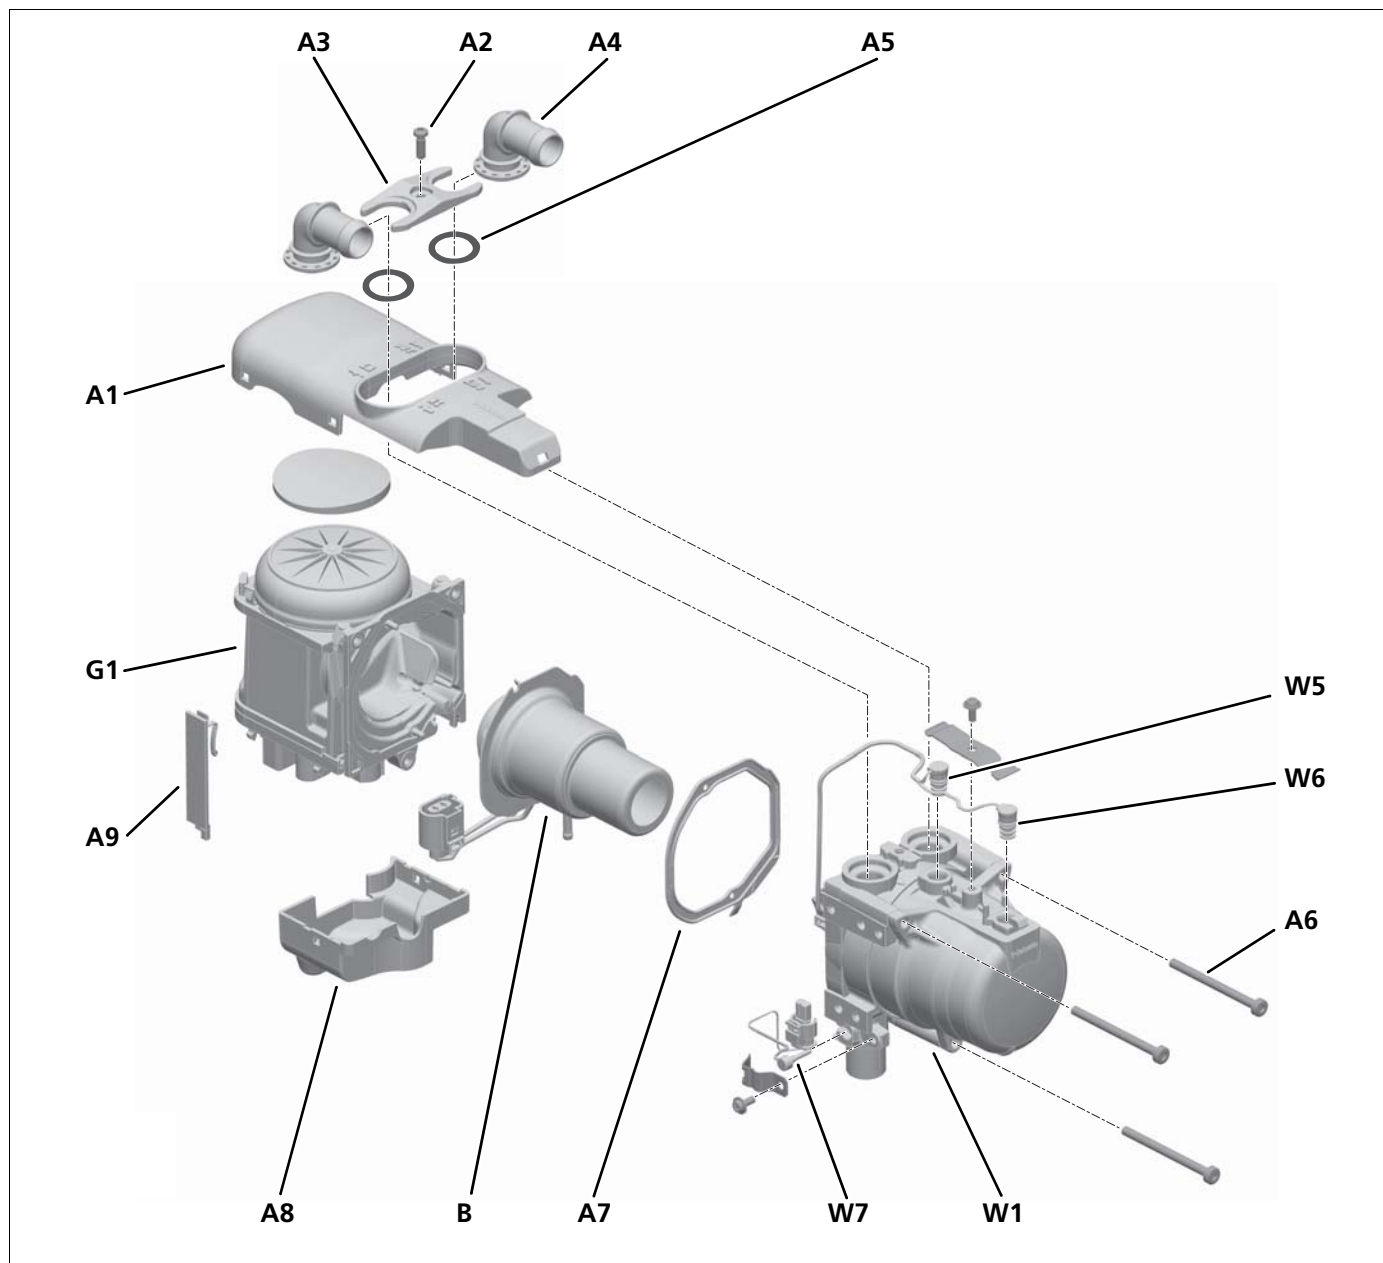

Fig. 901 Component description for Thermo Pro 50 Eco heater
1. Loosen screw (A2, Fig. 901) and remove water connection piece (A4) with retaining plate (A3) and O-rings (A5).
9. For information on removing the burner unit (B), see Section 9.2.1.